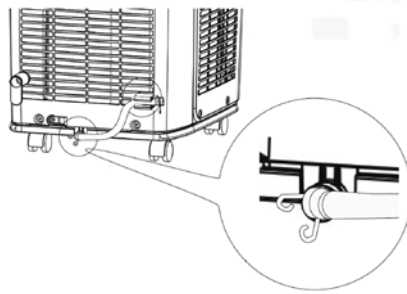

Fig. 20
- 2** Connect the supplied hose J (see fig. 1) to where the rubber plug was (see fig. 20) and fasten the hose with hose clip I.